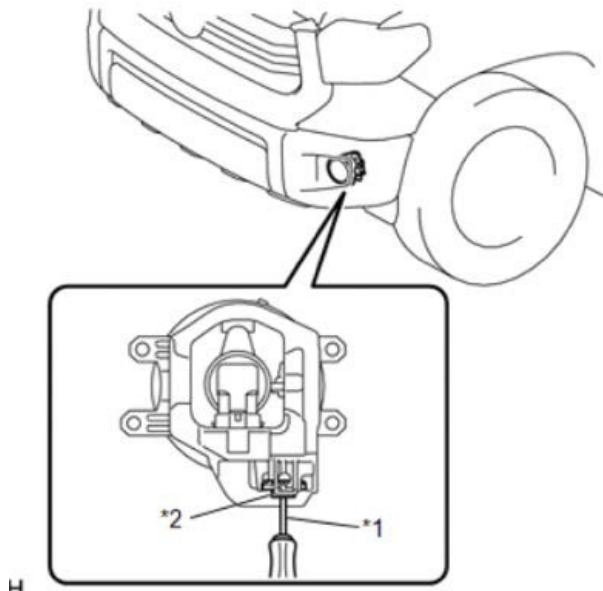

Figure 41
1. To adjust lamps, adjust screw from below vehicle: refer to Figure 41.